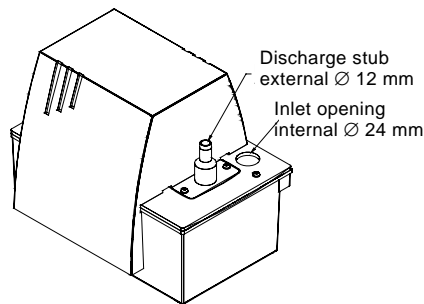

Fig. 7 Discharge stub and inlet opening
- Insert the inlet hose sufficiently deep into the tank through the inlet opening, see fig. 7. It is recommended to make a sloping cut to the hose.
- Pass the discharge hose end over the discharge stub (the grommet should not be lubricated with grease), see fig. 7. Fasten the hose with the clamp supplied with the lifting station.